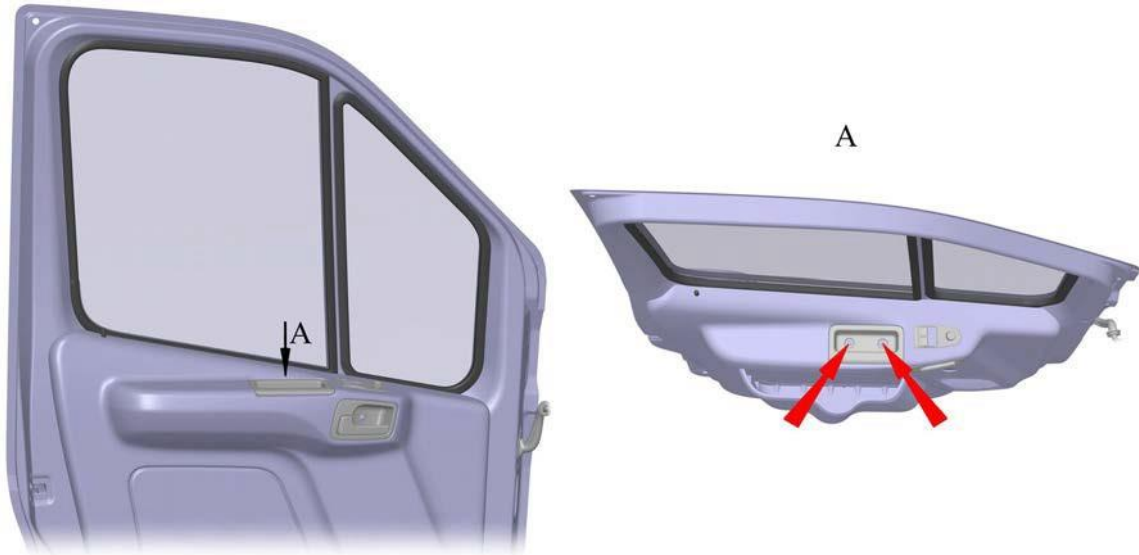

Fig. 8.22. Door trim handle screws
- unscrew the two screws securing the door trim handle to the bracket (Fig. 8.22);